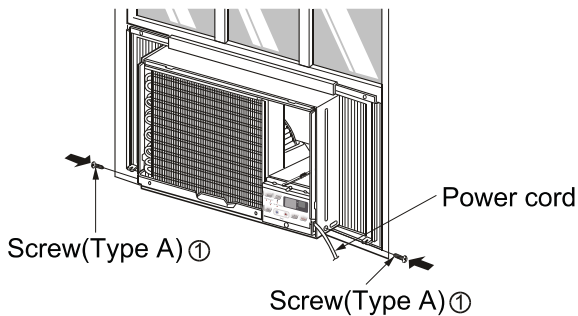

Fig. 7
10. Slide the unit into the cabinet. ( Fig. 7)